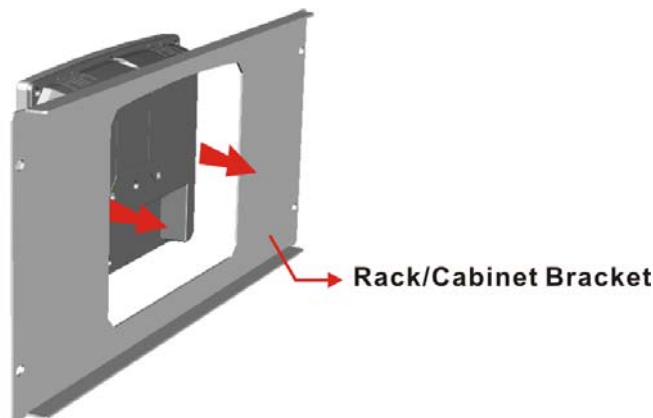

Figure 3-33: The Rack/Cabinet Bracket
Step 2: Slide the rear of the PPC-F12B/15B/17B-BTi flat panel PC through the rack/cabinet bracket until the aluminum frame is flush against the front of the bracket (**Figure 3-33**).